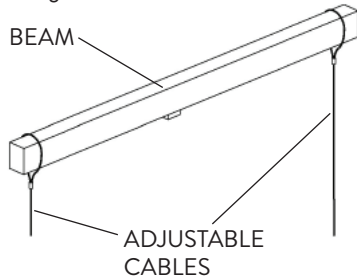

FIG. 4
- 1 The Cable Mount Kit includes Aircraft Cables (2). Wrap the two pieces of Cable around the Ceiling Beam and extend down to the required mounting height (Fig. 4).